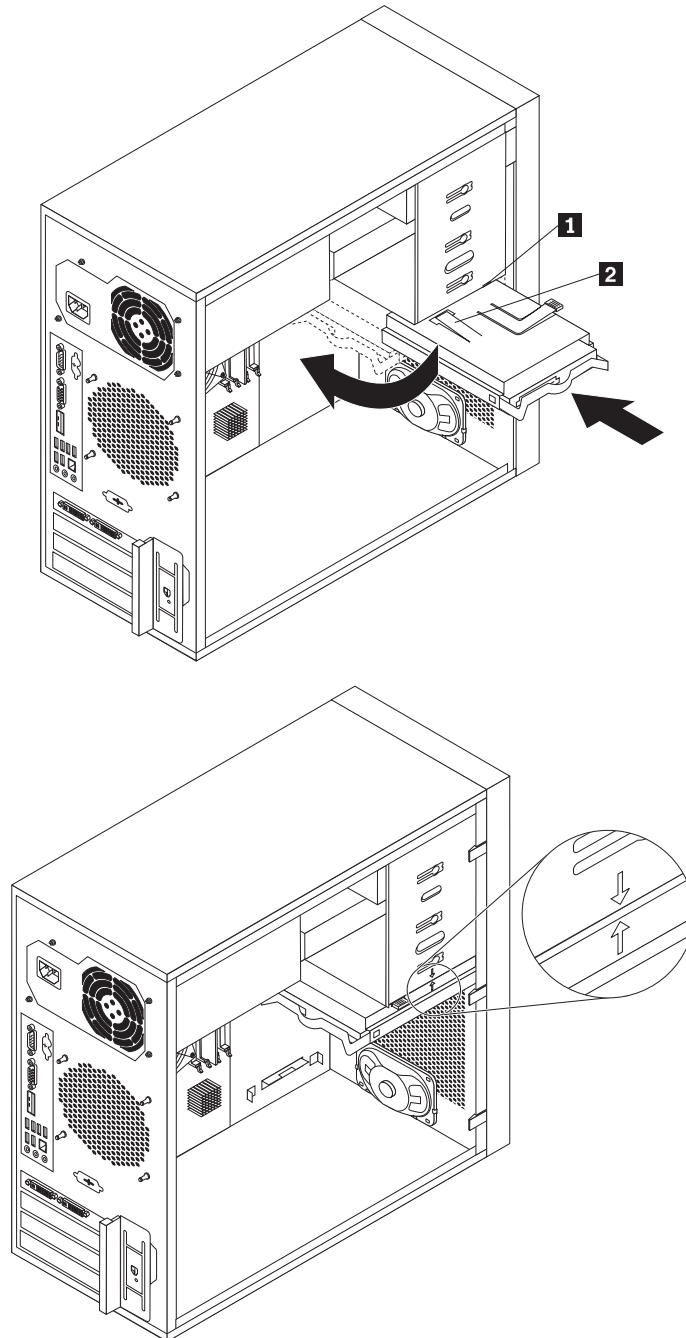

Figure 28. Installing the primary hard disk drive
9. Align the hard disk drive cage pivot pin with the slot **1** in the upper drive cage, as shown in Figure 28. Then, slide the hard disk drive cage into the chassis.